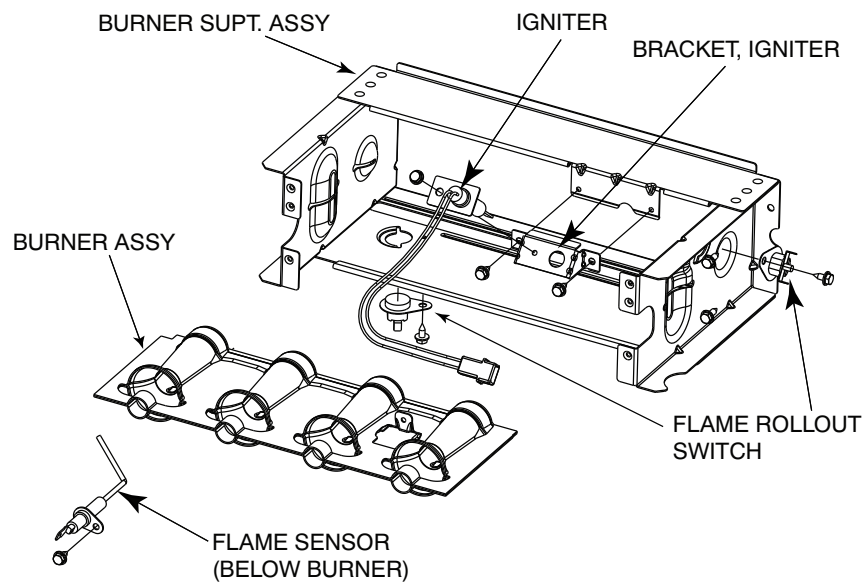

Fig. 67 - Burner Assembly
6. Remove screws attaching burner assembly to cell panel. See Fig. 67.